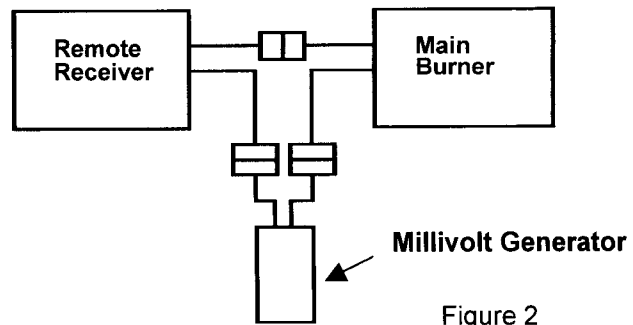

Figure 2
2. Connect the leads to the millivolt generator and the main burner to the output cable of the Remote Receiver as shown in Figure 2.